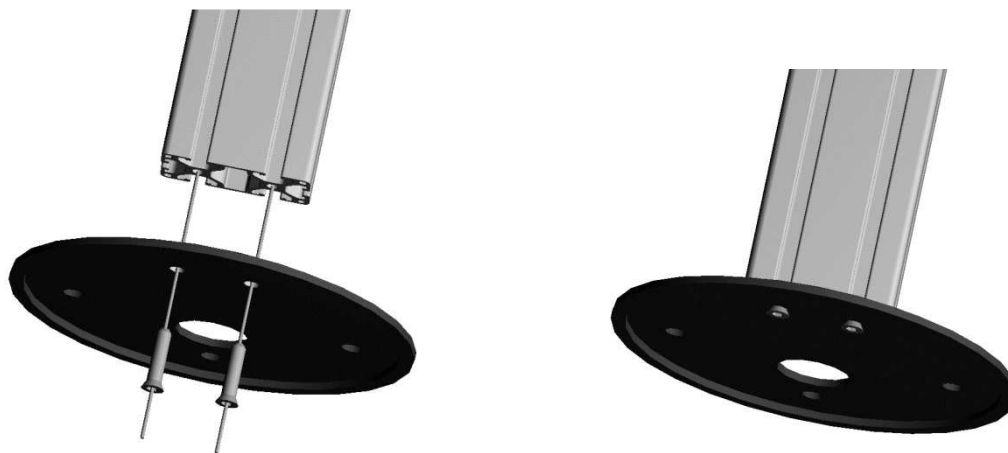

Figure 1
ASSEMBLY OF THE ST AX WITH THE ROTATION FLANGE (Fig. 1)
- Assembly the rotation flange with the profile using the correct provided screws (as shown in figure 1).